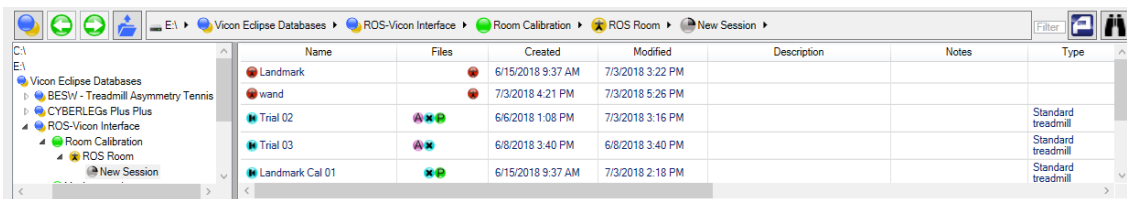

Fig. 3.6: Database in Nexus
- Click on the upper left button to manage Eclipse Database (see Fig. 3.6) and create a new project.